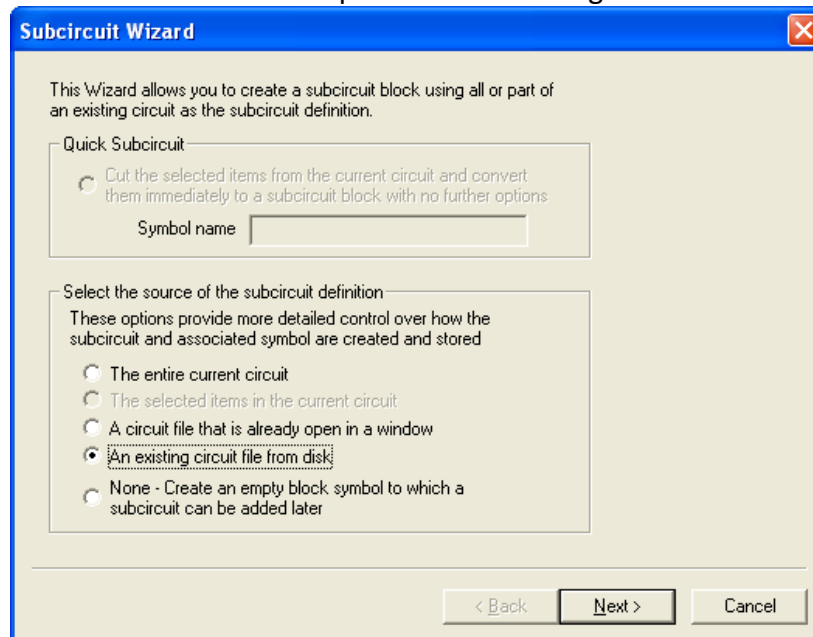

Figure 3
- j. Click on the "An existing circuit file from disk" radio button. Click on "next". The Subcircuit Wizard window at this point is shown in Figure 3.